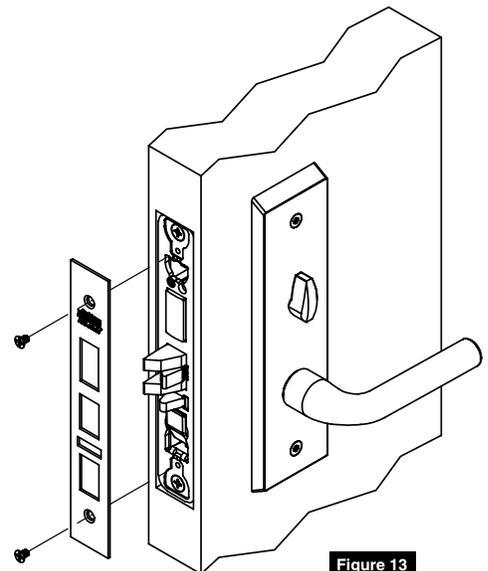

Figure 13
7. Install armored front. (Figure 13)